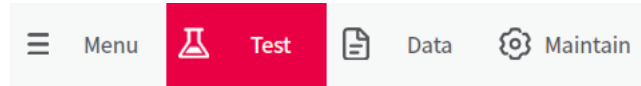

Figure 12 Function button 1
1. Function button 1 (Upper group): As shown in Figure 12.